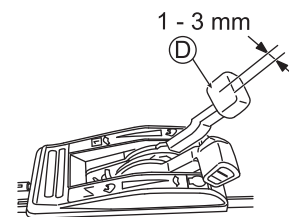

Fig. 33
Adjust the play of the gearshift lever (D) to 1 - 3 mm as shown in Fig. 33.
3. Start the engine and confirm that mowing speed changes when the gearshift lever (D) is operated.